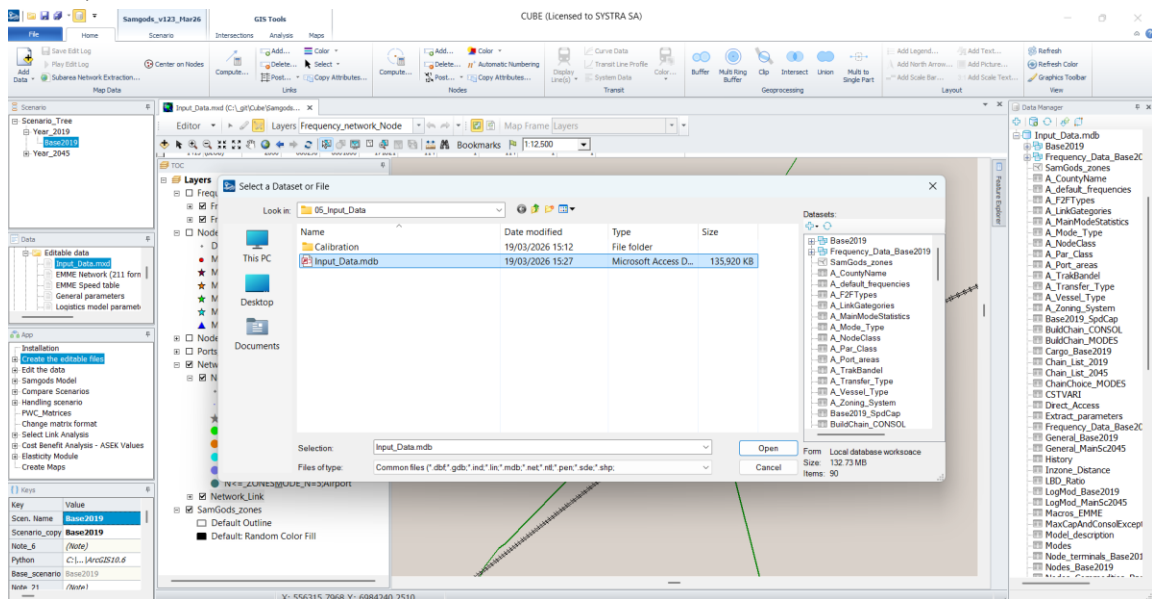

Figure 92 Input data
- 2) Open Input_data.mdb in data manager, see Figure 92.
- 11) Click on "Browse", select in the left side Input_Data.mdb and in the right side BuildChain_CONSOL_1 (see Figure 92).